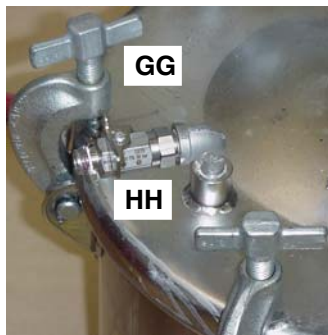

FIG. 13
6. Immediately close the tank by tightening the T-handles (GG) evenly, FIG. 13.